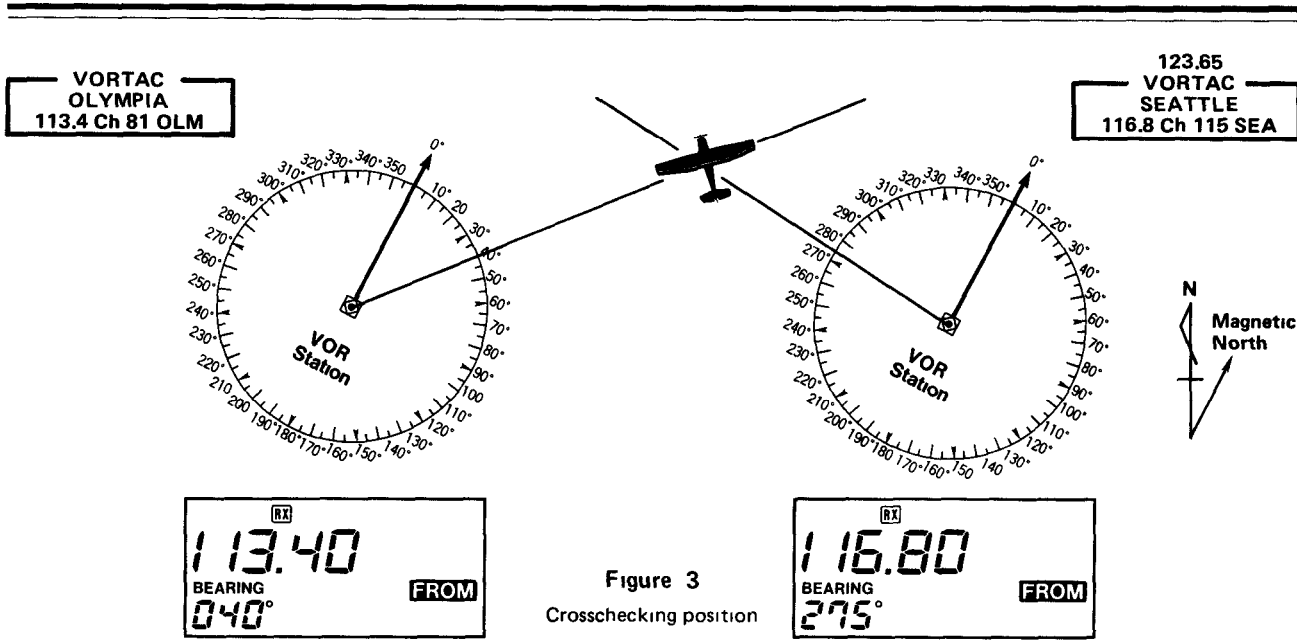

Figure 3
- 4) Extend the radials from each VOR station on your map. Your aircraft is located in the spot where both the lines cross each other. (See Figure 3)